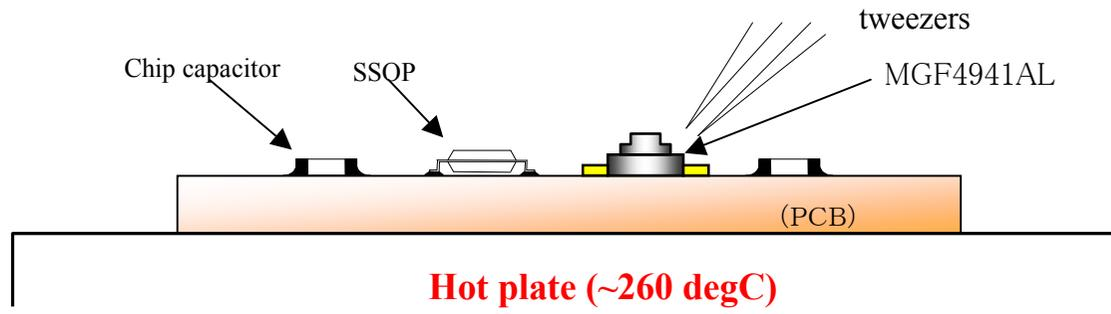

Fig.5 : Hot plate
1. Set a PCB on the hot plate shown as fig. 5 and keep the temperature of PCB surface **under 260 degC**.